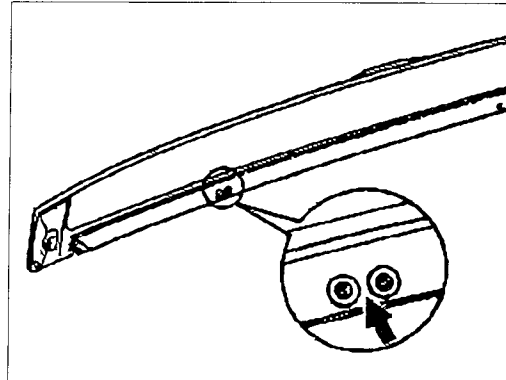

Figure 1
- If the threaded inserts (arrow in Figure 1) in the wind deflector hinge are loose, the wind deflector, part number 993 562 904 00, and the attaching bolts, part number 993 562 577 00, will need to be replaced. Tighten the attaching bolts to 5.5 Nm (4 ftlbs).